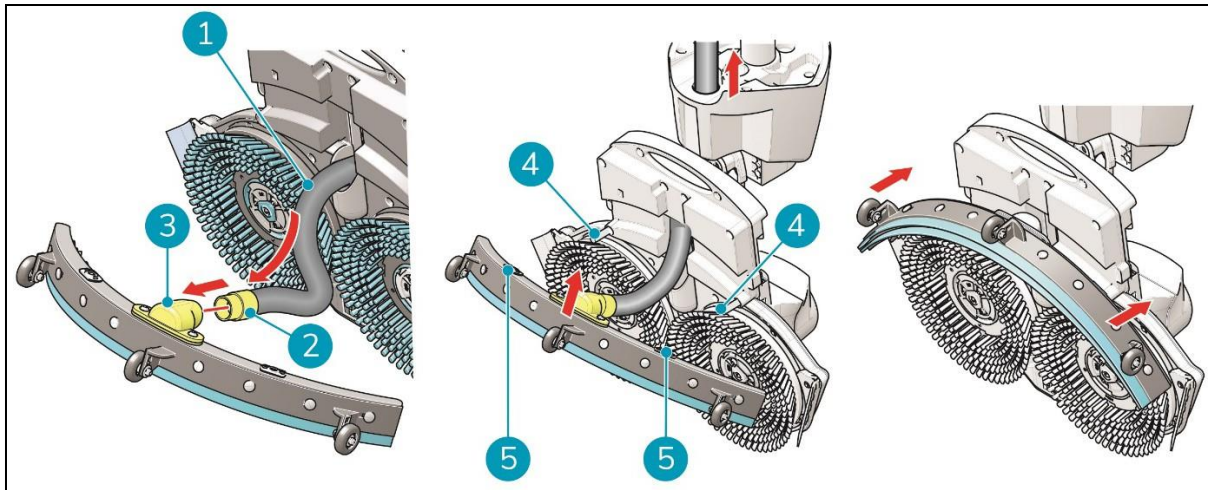

Figure 28
1. Take the vacuum hose (Figure 28, pos 1).
2. Insert the hose connector (Figure 28, pos 2) in the squeegee (Figure 28, pos 3).
3. Twist the hose connector 1/4 turn for a firm fit (Figure 28, pos 2).
6. Align the pins on the scrub deck (Figure 28, pos 4) with the holes on the squeegee (Figure 28, pos 5).